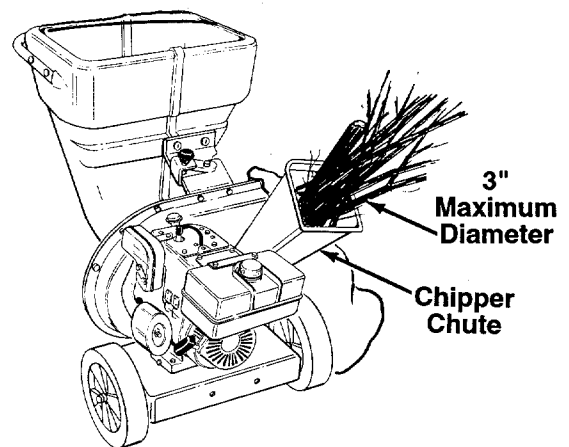

FIGURE 8.
3. Bulky material, such as stalks or heavy branches, **up to 3" in diameter** should be fed into the chipper chute. See figure 8.